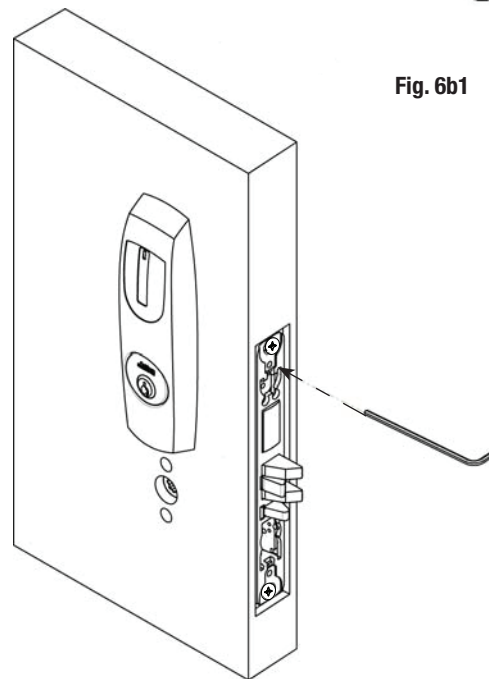

Fig. 6b
b. Tighten cylinder clamp using 7/64" allen wrench (provided) (Fig. 6b).